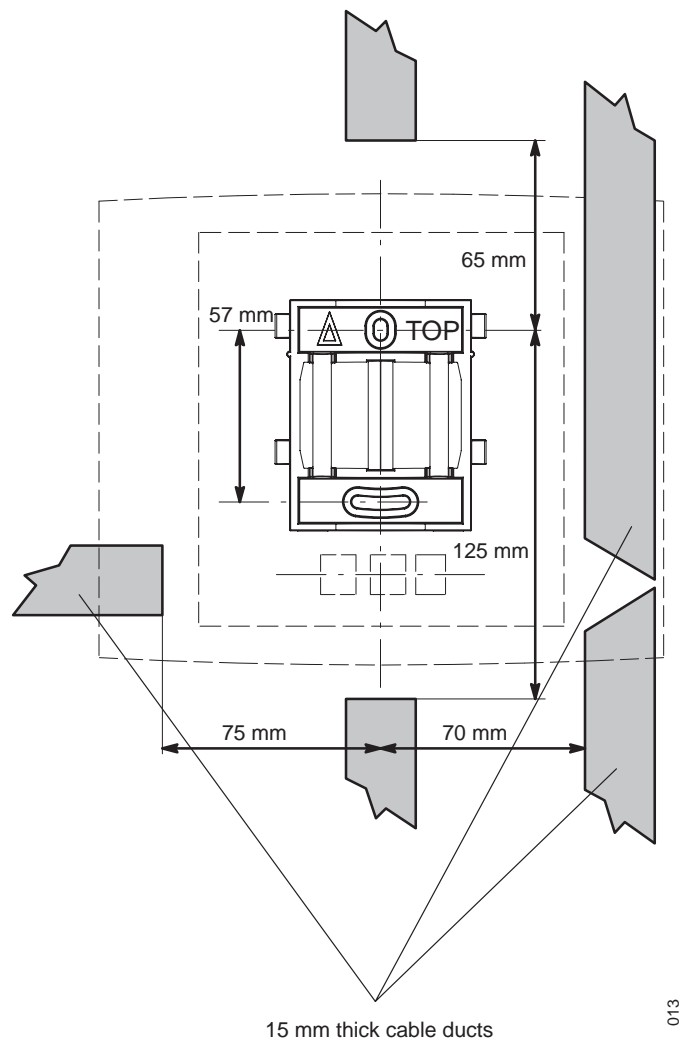

Figure 6. Minimum distances between a cable duct and the mounting bracket
- 1 Fix the cable duct to the wall in one of the positions shown in figure 6 on page 22.